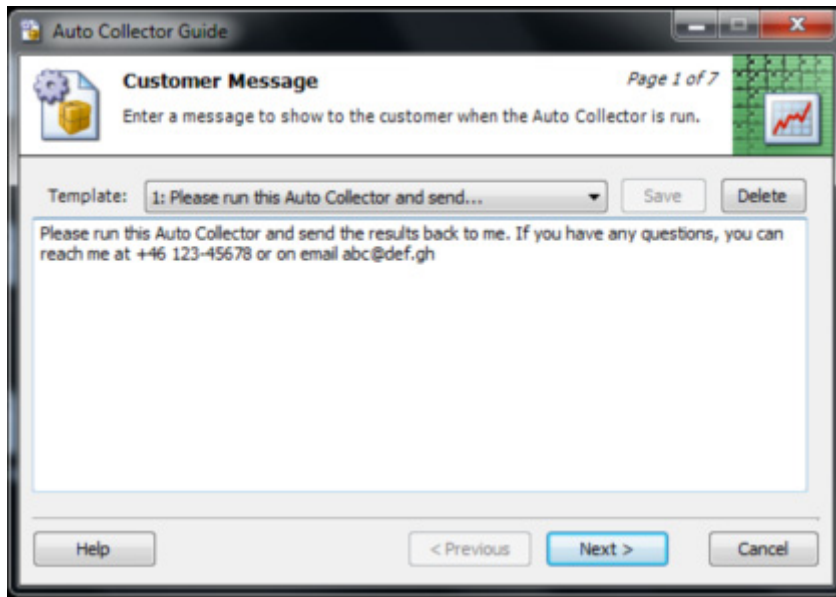

Figure 60. Customer Message Dialog
1. To add a message template, write a message in the text box and click **Save**, see Figure 60.
2. To delete a template from the list of installed templates, select it from the list (the message will show up in the text box), and click **Delete**, see Figure 60.